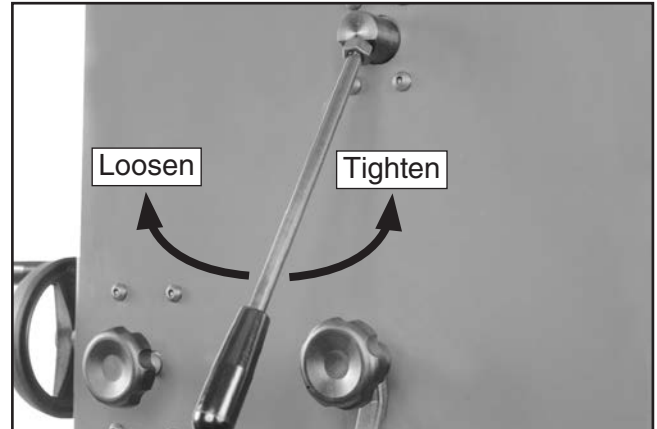

Figure 23. Quick-release tension lever.
4. Loosen blade tension by rotating the quick-release tension lever clockwise, as shown in **Figure 23**.